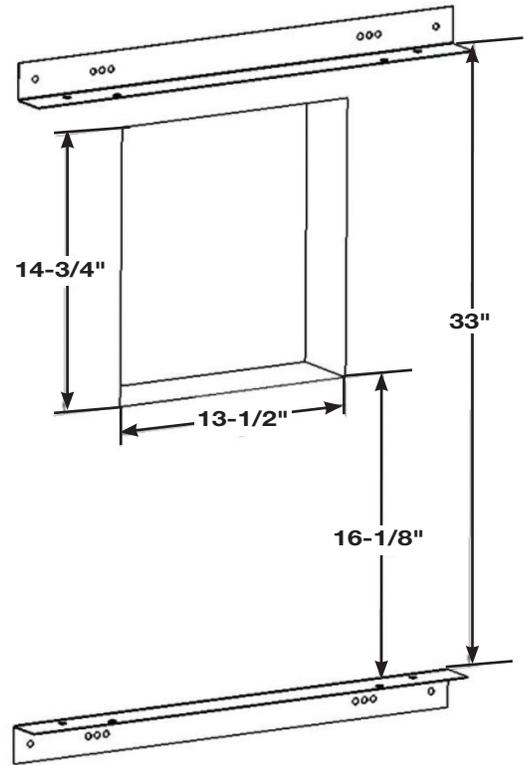

**Fig. 5 - Spacer**
6. If a spacer is required, make one from wood that is a minimum of 1-1/2" wide similar to what is shown (Fig.5). Ensure the thickness of spacer combined with the wall thickness will be between 6" and 8-1/2". Cut boards to fit around the duct cutout. Cut two 26" long boards to make spacers for the mounting brackets. Space the lower spacer so the center of the board is 17-1/4" below the bottom of the cutout. Ensure that the spacer is level and that the fasteners used will not interfere with the fasteners that will be used to connect the bracket to the spacer. Place the top spacer so the center of the spacer is 35" from the center of the lower board.